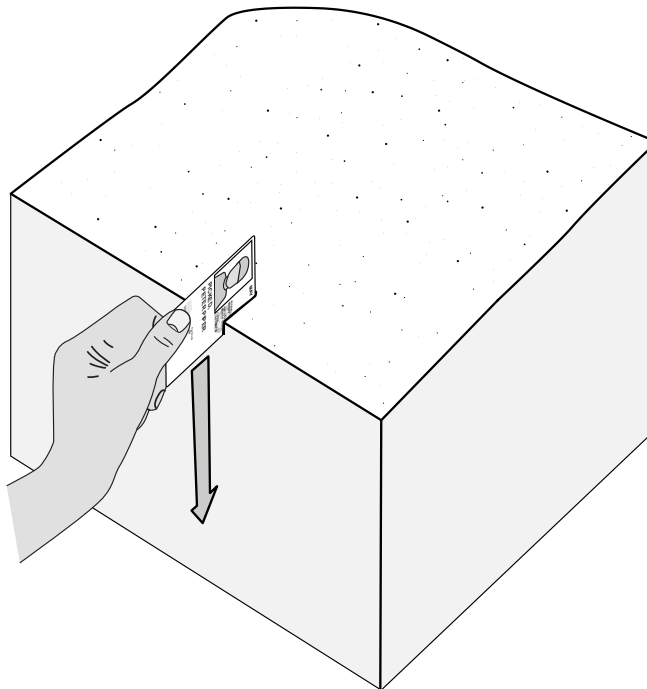

Figure 1-10. Resistance Test.
- **Resistance Test.** Insert a straight edge into the top of the sidewall and run it down the wall (see Figure 1-10), noting the relative resistance between hard and soft layers. This test can corroborate and expand upon the information gained from the stratigraphy test.